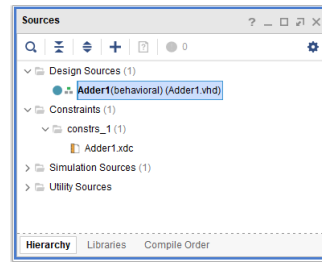

Figure 8. Sources Pane
- a. In the *Sources* pane as shown in Figure 8, double-click the Adder1.vhd entry to open the file in the text mode. The file contents of **Adder1.vhd** are shown in Figure 9.